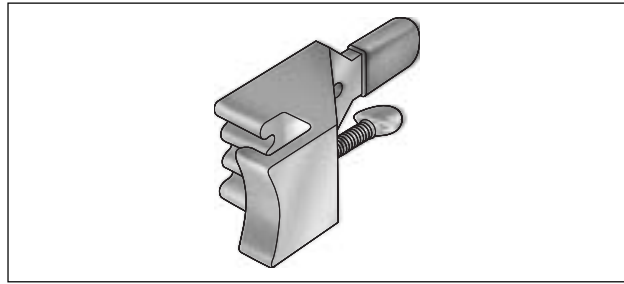
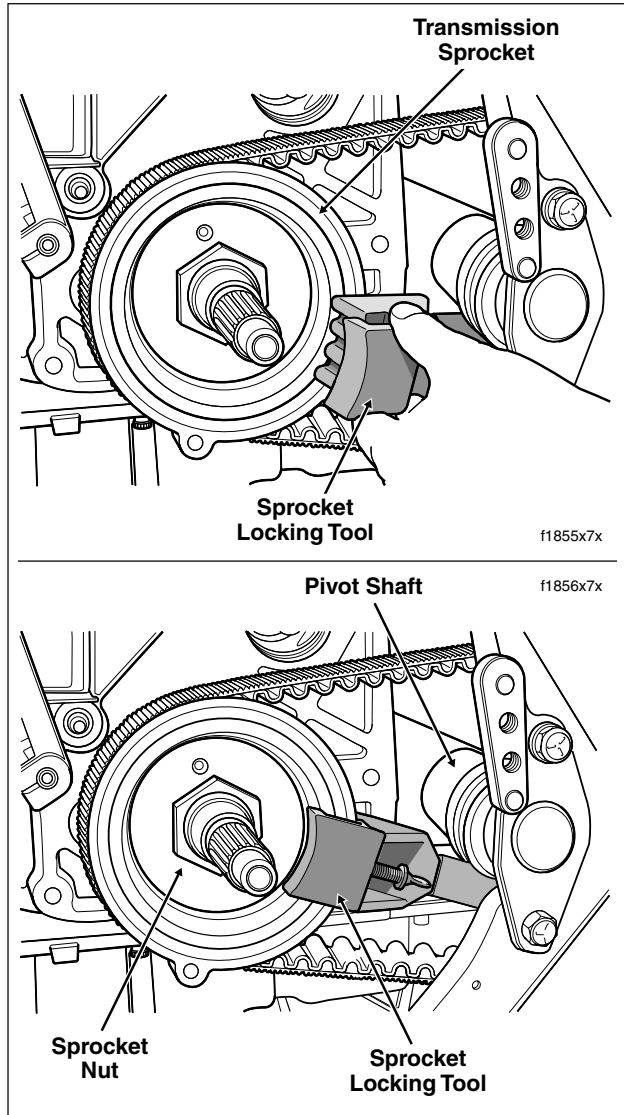

Figure 7-33. Final Drive Sprocket Locking Tool
Figure 7-34. Install Final Drive Sprocket Locking Tool
7. Lock transmission sprocket with FINAL DRIVE SPROCKET LOCKING TOOL, Part No. HD-41184. See Figure 7-33. Insert handle of tool below pivot shaft inboard of bottom frame tube and attach to sprocket. Snug thumbscrew to lock position of tool on sprocket. See Figure 7-34.